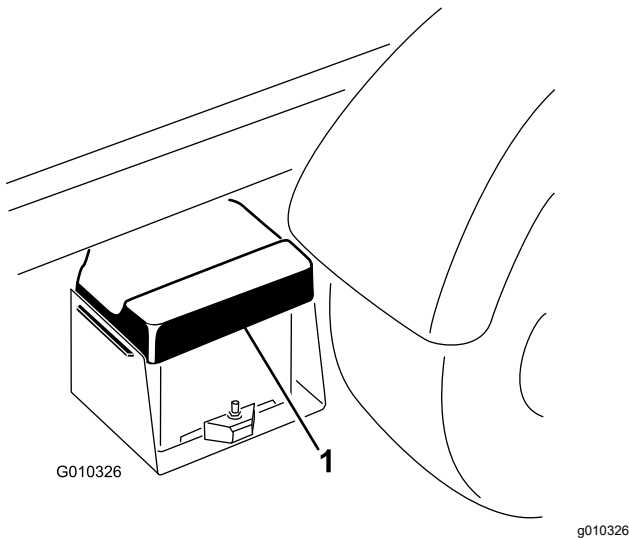

Figure 51
1. Squeeze the battery cover to release the tabs from the battery base, and remove the battery cover from the battery base (Figure 51).